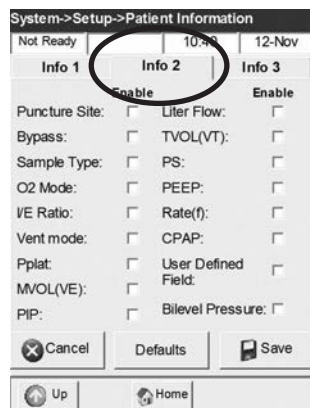

Fig. 3-15 Patient Info 2
- Press the **<Info 2>** tab to access and enable the following parameters (Fig. 3-15).